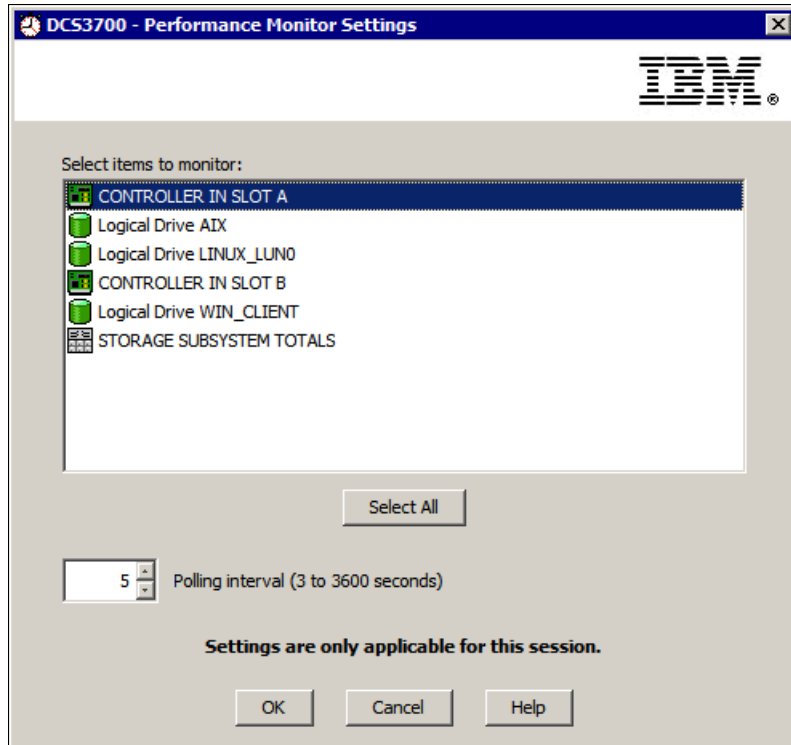
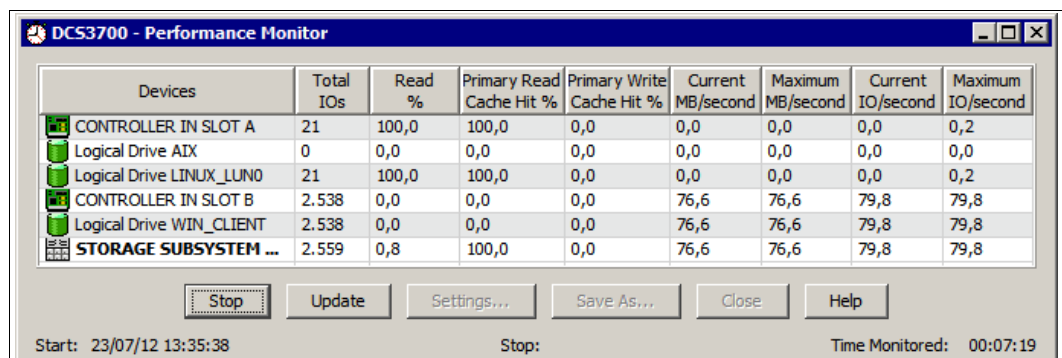

Figure 13-5 Performance Monitor Settings
Figure 13-6 Performance Monitor collecting data
2. Click **Settings** to configure the Performance Monitor (Figure 13-5 on page 391). In this window, you select the specific logical drives and controllers that you want to collect performance counters for. Click **Select All** to collect performance counters for all logical drives and controllers in the subsystem. You also specify how often the performance counters should be updated by specifying the **Polling interval** in seconds. Click **OK** to exit the settings window after you select the subsystem logical drives and controllers that you want to monitor.
3. Click **Start** to begin collecting the performance counters (Figure 13-6). The performance counter values that are listed in the table are updated at the time interval that you specified in the Polling Interval setting in Figure 13-5. Click **Update** to force an immediate update of the performance counters.